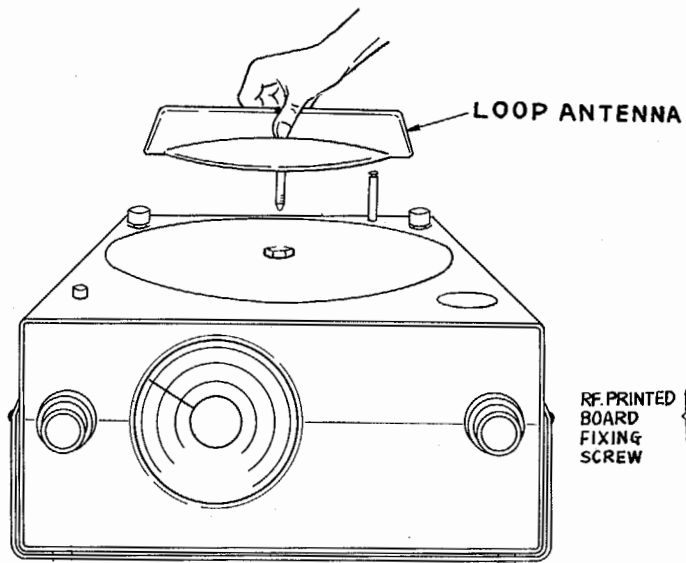

Figure 10
- (b) If any trouble develops with equipment, repairs shall be carried out only by a person well acquainted with the mechanism and operation of this machine. To facilitate inspection, the machine can be disassembled into several units as illustrated in Figures 10, 11, 12 and 13.